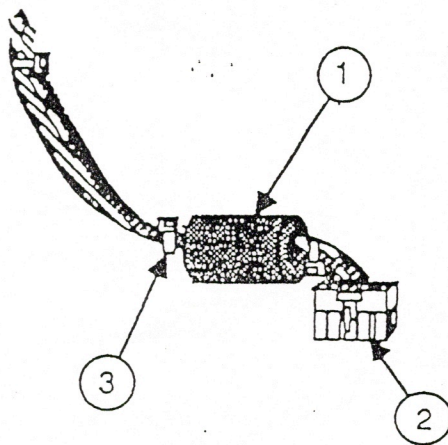

FIGURE 1
The new analog board for the Macintosh® SE can cause EMI interference. To reduce EMI interference, a clip-on ferrite bead and tie-wrap (packaged with the analog board) must be installed on the video board cable of your Macintosh SE (see Figure 1 below). Refer to the Take-Apart section of your Apple Technical Procedures for additional information.
1. Perform these steps only if a ferrite bead is not already installed on the video board cable in your Macintosh SE as shown in Figure 1.